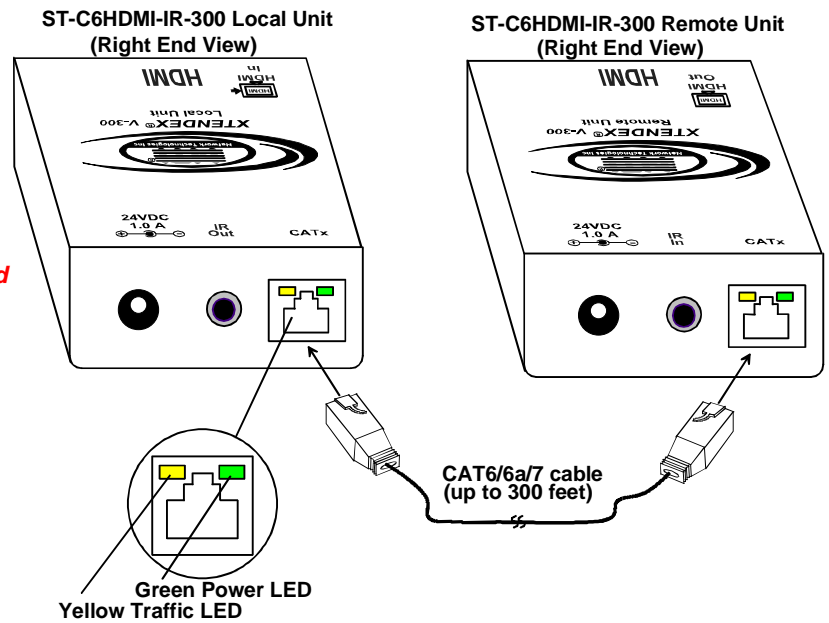

Figure 3- Connect CATx cable
Connect the CATx cable between the “CATx” ports on the Local and Remote Unit. (See Fig. 3.) When properly inserted the cable ends should snap into place.
2. Connect an AC adapter power connector to the 24VDC port on the Remote Unit or the Local Unit. Plug the AC adapter into a power outlet. The green LED on the RJ45 connector of both the Remote and Local Units should illuminate, indicating that a proper power connection has been made to them. (See Fig. 3)